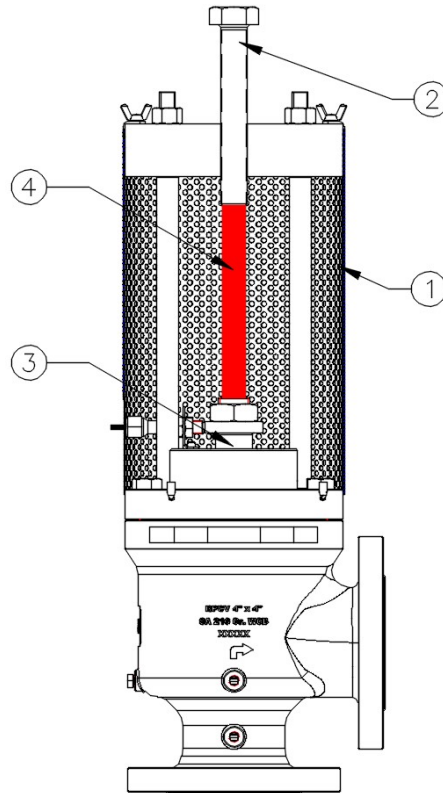

Figure 4: Removal of Shipping Pin
1. Remove Protective Screen Cover (See Figure 4, Item 1).
## Removal of Shipping Pin (Item 4 of Figure 4)
2. Remove Protective Screen Cover (See Figure 4, Item 1).
3. The valve is in closed position with an inactivated Buckling Pin, "such as shipping pin", the Adjuster screw (Item 2 of Figure 4) need to be unscrewed counterclockwise until the shipping pin can be removed using the wrench size specified in the Table 3 below or by using the Reset Tool. Preserve the "Shipping pin", it will be used to reset the valve with new buckling pin after activation.